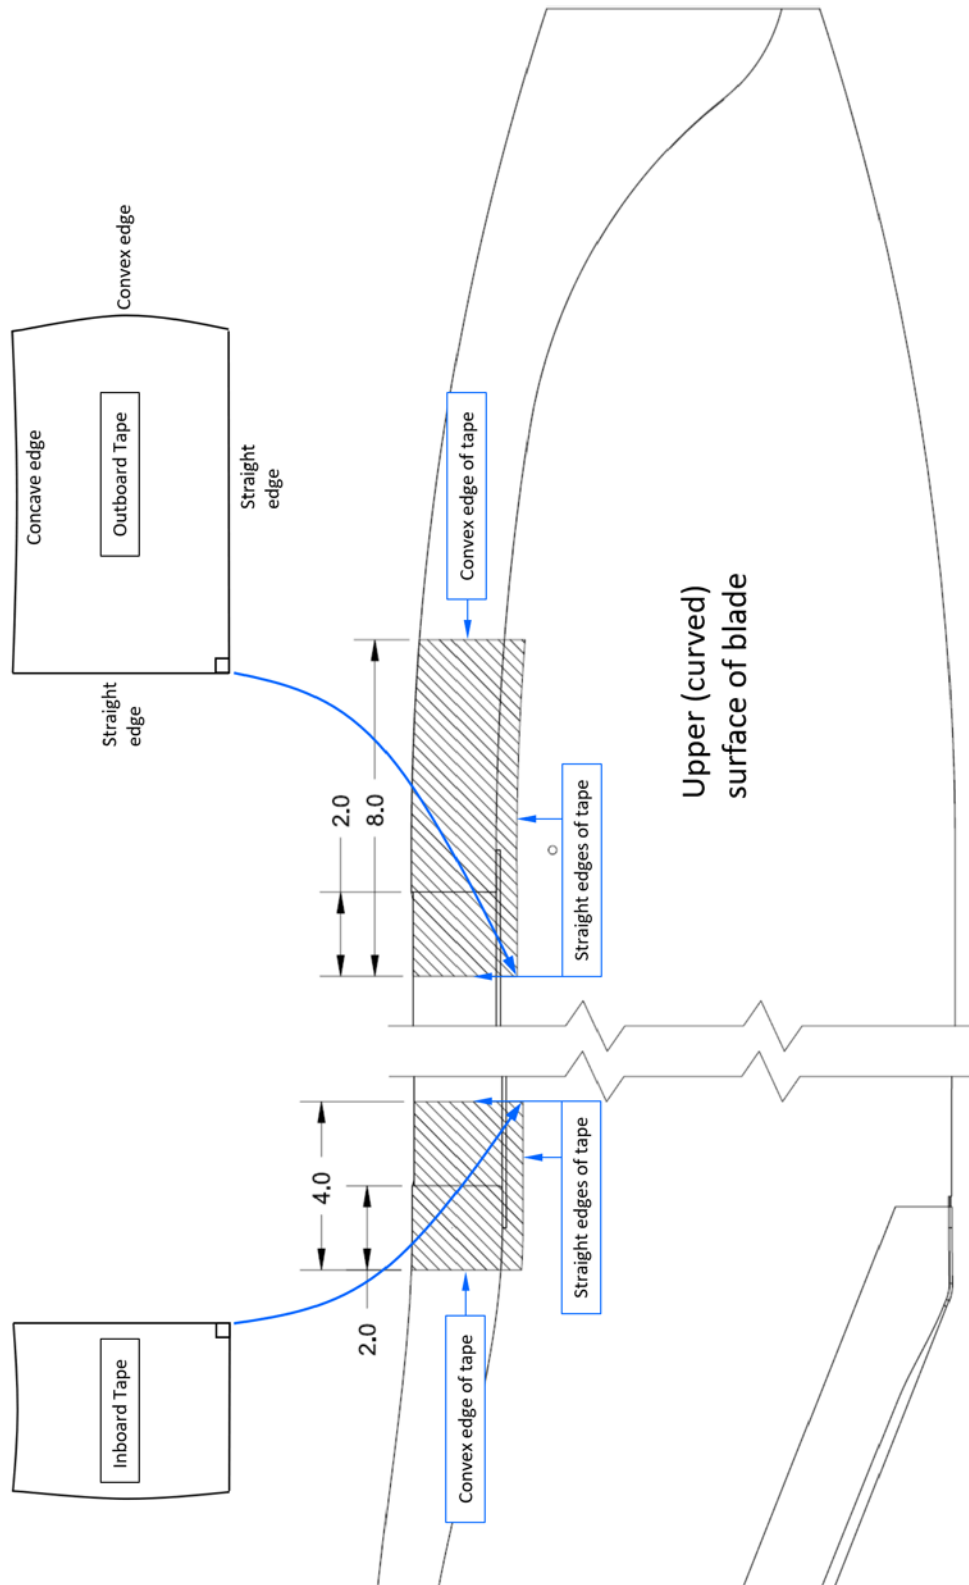

Figure 1 ~ Alignment and Location of Polyurethane Tape
- 3.3.4 Hold the polyurethane tape onto the upper surface of the blade with masking tape, then stretch the polyurethane tape around to the lower surface. The polyurethane tape should lay tight against the blade, with no wrinkles, and must lay tight over the abrasion strip joint. Repeat this dry fit procedure until comfortable with how the tape conforms to the blade. When the tape is permanently installed, it becomes difficult to reposition the tape. Hold the polyurethane tape in its final location and outline the polyurethane tape with a contrasting permanent marker. Reference Figure 1.